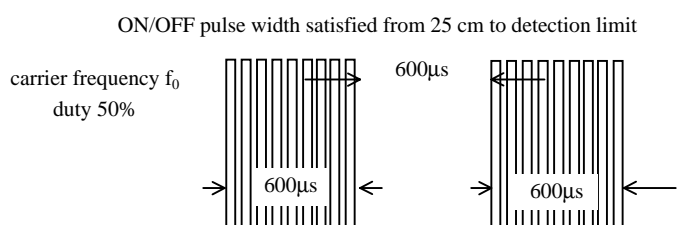

Fig 1. Burst Wave
- (1)Measuring place .....Indoor without extreme reflection of light.
- (2)Ambient light source... Detecting surface illumination shall be 200±50Lux under ordinary hite fluorescence lamp of no high frequency lighting.
- (3)Standard transmitter ... Burst wave indicated in Fig 1. of standard transmitter shall be arranged to 50mVp-p under the measuring circuit specified in Fig 2.